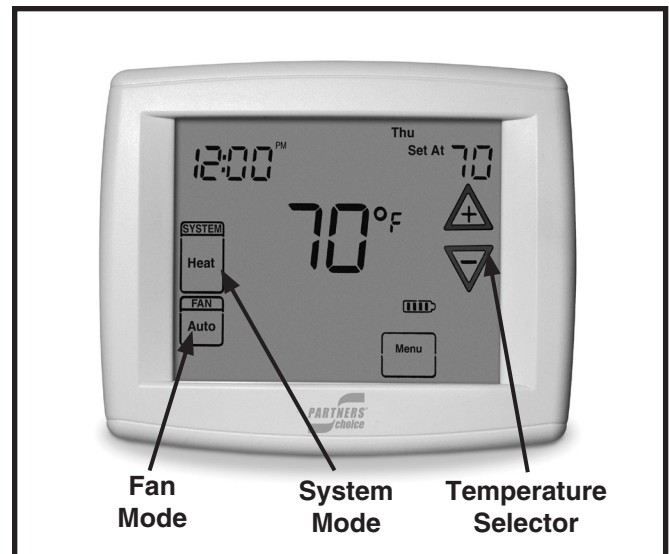

Figure 1. Digital Thermostat
1. Set the thermostat system mode to COOL and the thermostat fan mode to AUTO. See Figure 1.
1. Set the thermostat system mode to Heat and the thermostat fan mode to AUTO. See Figure 1.
Set the thermostat system mode to OFF and the thermostat fan mode to AUTO. See Figure 1. **NOTE:** The system will not operate, regardless of the thermostat temperature selector's setting.
Set the thermostat fan mode to ON (or CONT on some thermostat models). See Figure 1.
1. Set the thermostat's system mode to HEAT or AUTO and change the fan mode to AUTO. See Figure 1 (pg 3).
1. Set the thermostat system mode to AUTO and the thermostat fan mode to AUTO. See Figure 1 (page 3).
The continuous indoor blower operation is typically used to circulate the indoor air to equalize a temperature imbalance due to a solar load, cooking, or fireplace operation. Set the thermostat fan mode (Figure 1) to ON (or CONT on some thermostat models). The indoor blower will start immediately, and will run continually until the fan mode is reset to AUTO. The continuous indoor blower operation can be obtained with the thermostat system mode set in any position, including OFF.
Set the thermostat system mode (Figure 1) to OFF and the thermostat fan mode to AUTO. **NOTE:** The system will not operate, regardless of the thermostat temperature selector's setting.